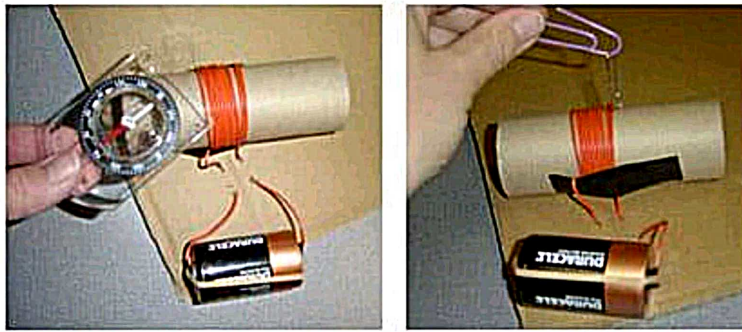

Figure 3. Experimenting with the magnetic field of the electromagnet.
- To locate the magnetic field of the electromagnet, direct students to move the compass in a circle around the electromagnet, paying attention to the direction that the compass points (see Figure 3). Direct students to draw the battery, coil and magnetic field on their worksheets. Use arrows to show the magnetic field. Label the positive and negative ends of the battery and the poles of the magnetic field. What happens if you dangle a paperclip from another paperclip near the coil (see Figure 3)? (Answer: The dangling paperclip moves, changes direction and/or wobbles.)